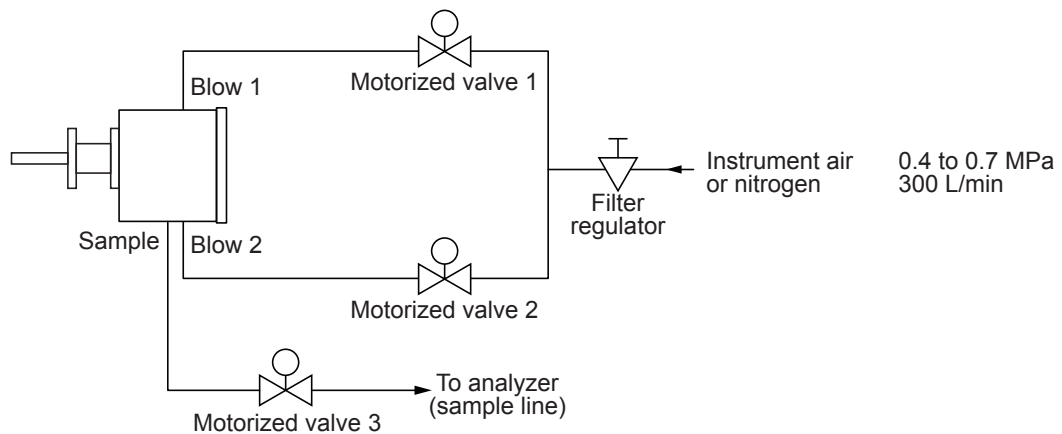

Fig. 5-4
- (5) Refer to Fig. 5-4 for an example for a blowback line pipe.